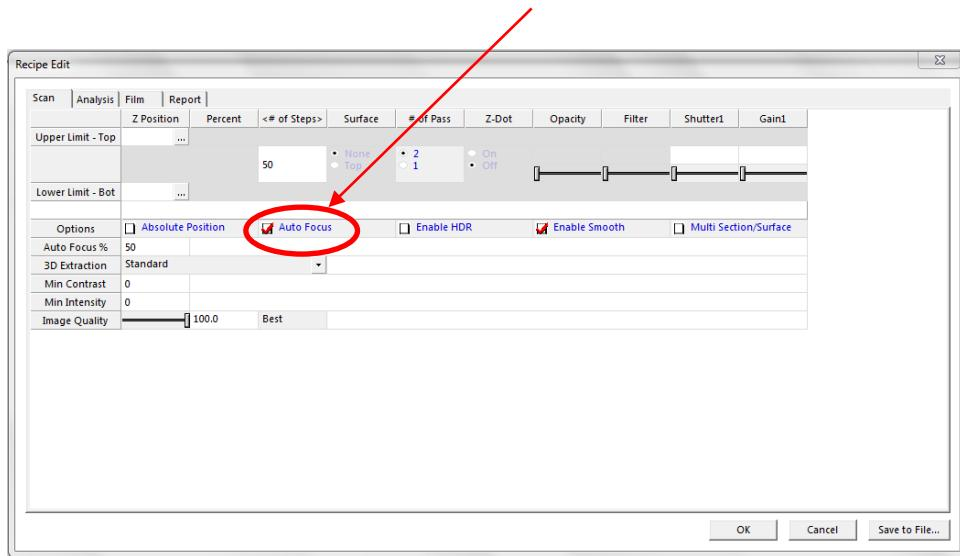

Fig. 32. Recipe Edit window with Auto Focus checkbox
- In the *Recipe Edit* window, click the checkbox labeled *Auto Focus* (or the label itself), as shown in Fig. 32.